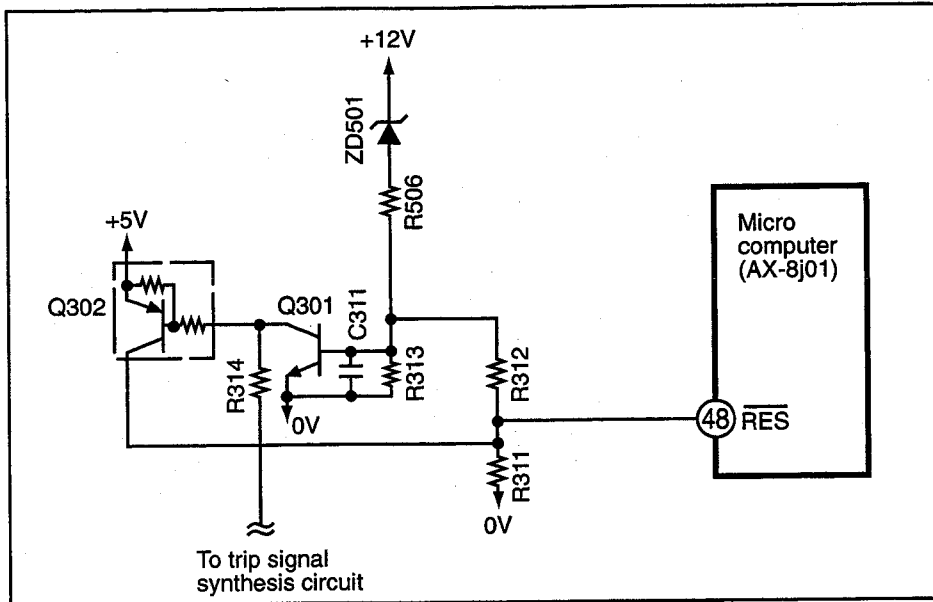
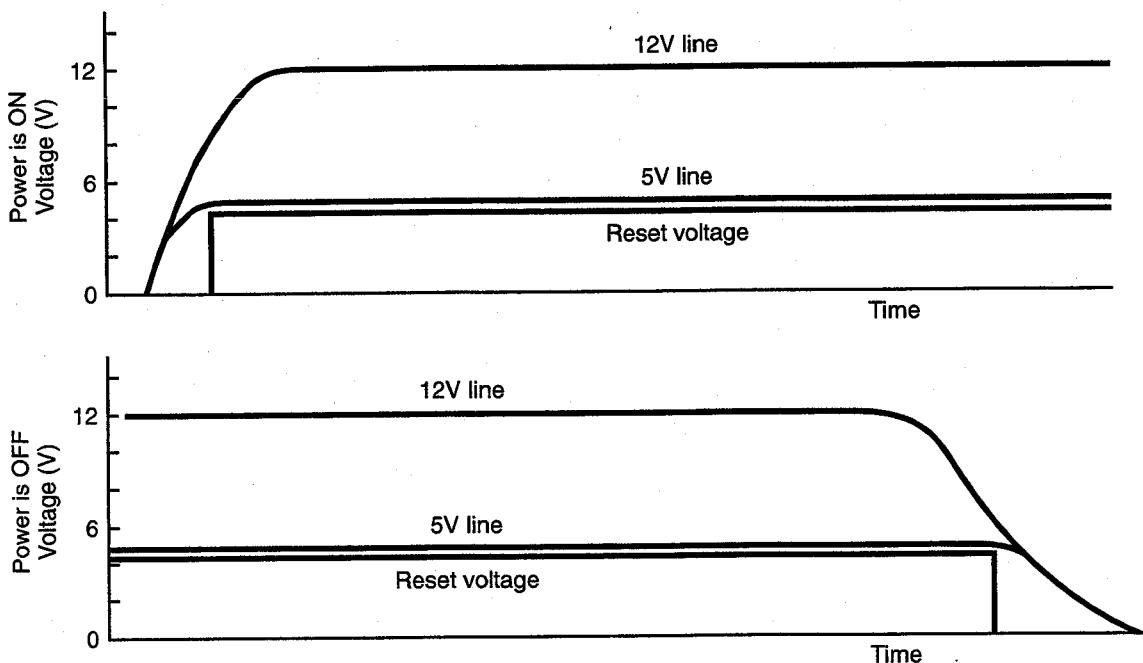

Fig. 11-1
Fig. 11-2
- Fig. 11-1 shows the reset circuit and Fig. 11-2 shows waveform at each point when power is turned on and off.
- When power is turned on, 12V line and 5V line voltages rise and 12V line voltage reaches 7.2V (Zener voltage of ZD501), D501 is turned ON, Q301 and Q302 are turned ON and reset voltage input to pin ④⑧ of microcomputer is set to Hi. By ZD501, reset voltage maintains input of pin ④⑧ at Lo until Vdd of microcomputer rises to 5V to obtain operable status.